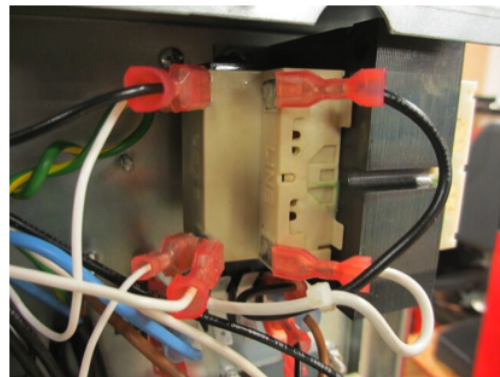

Figure 12
- I. Connect original wires back to the second connection on the adaptors (Figure 12).